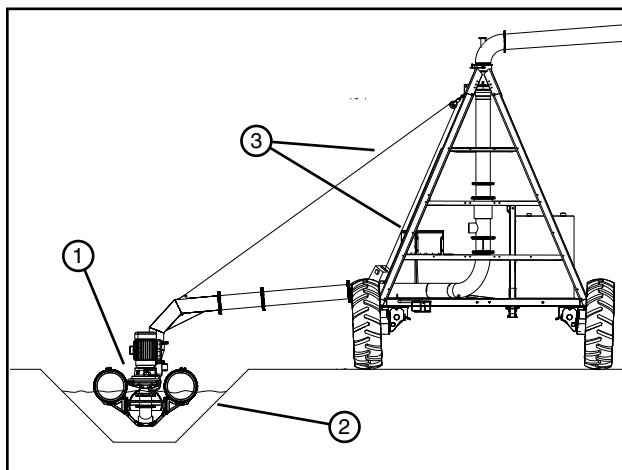

Figure 62-3 1. Suction Inlet 3. Lift Cable
- (a) Lower suction inlet into ditch until the inlet lift cables go slack. See Figure 62-3.